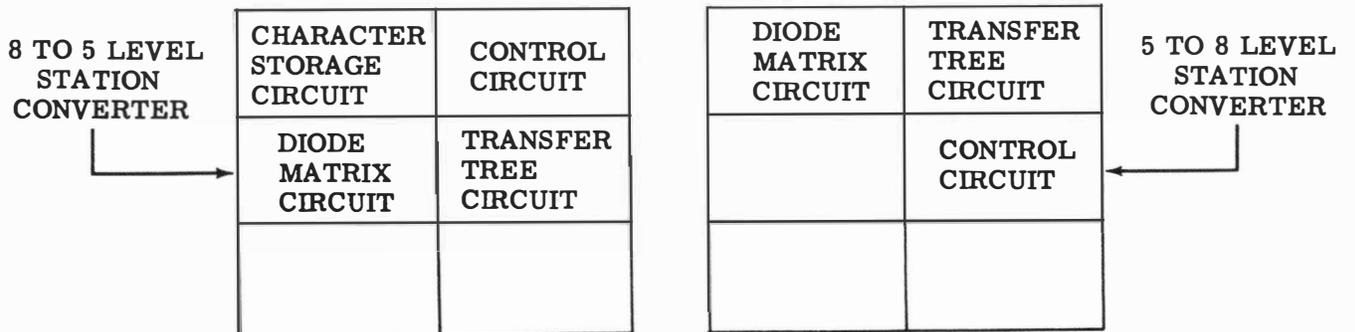

Figure 2 - Signal-to-Tape Station Converter
3.04 A Universal Signal-to-Tape Station Converter consists of the following mechanical and electronic components: (Refer to Figure 2).
3.06 Translator: The translator portion of the Signal-to-Tape Station Converter Set consists of three (5 to 8-level sets) or four (8 to 5-level sets) electronic modules mounted on shelves in the lower half of the cabinet (see Paragraph 3.04, and Figure 2). The translator functions to convert the 5 or 8-level parallel signal from the receiving selector to its respective 8 or 5-level counterpart, for reception by the tape punch.